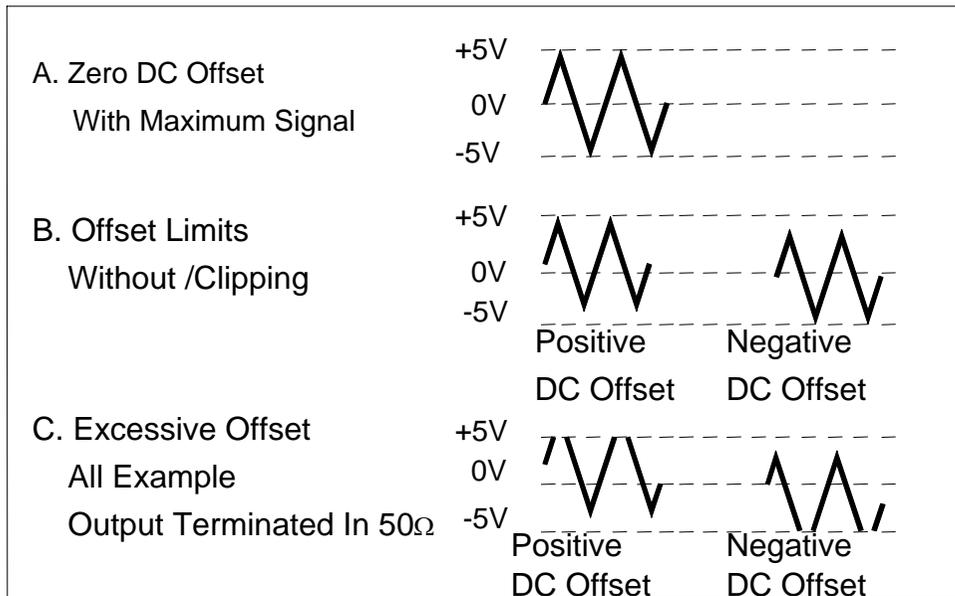

FIG 4. USE OF DC OFFSET CONTROL
- A. The DC offset control can provide over ± 10 volts open-circuited, or ± 5 volts into 50Ω load. Remember that the combined signal swing plus DC offset is also limited to ± 10 V open-circuited, or ± 5 V into 50Ω. Clipping occurs slightly next page these levels. FIG 4. illustrates the various operating conditions encountered when using DC offset. If the desired output signal is large or if a large DC offset is used, an oscilloscope should be used to make sure that the desired combination is obtained without clipping. Keeping the Amplitude control in the lower half of its adjustment range reduces the probability of clipping.